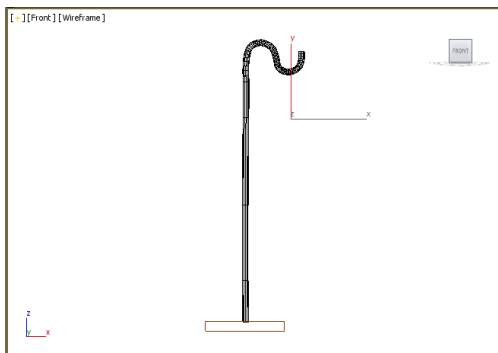

Figure 5-27 The pillar displayed
- Make sure the **Radial** radio button is selected and set the value **0.15** in the **Thickness** spinner; *pillar* is displayed, as shown in Figure 5-27.